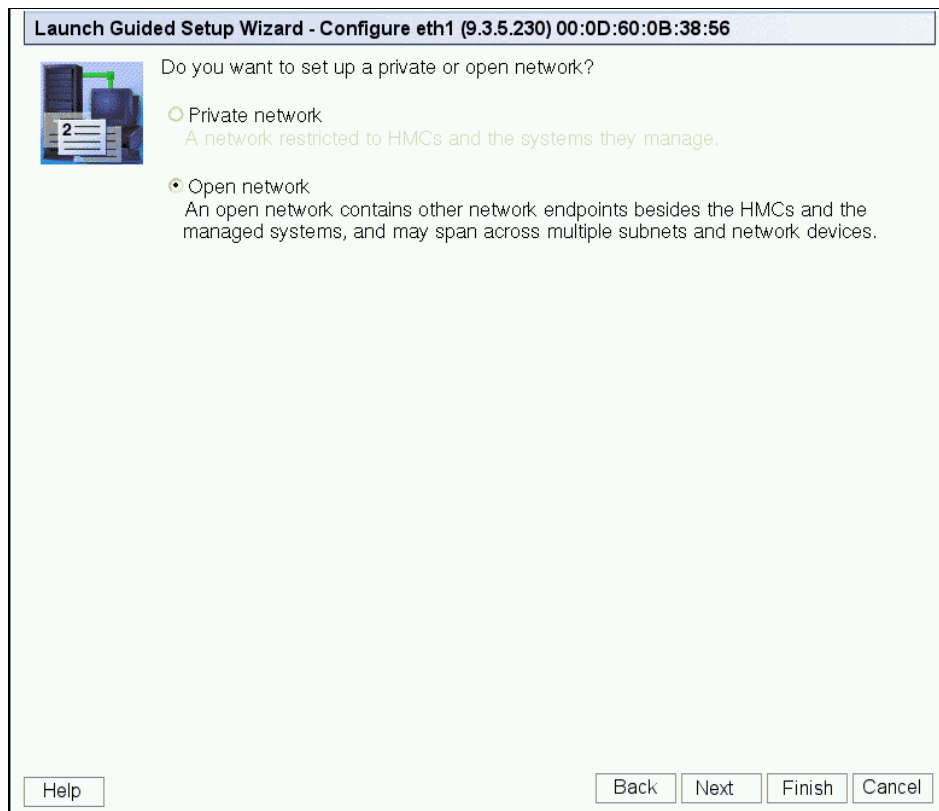

Figure 3-23 Launch Guided Setup Wizard - Configure eth1 Open Network
16. The Launch Guided Setup Wizard - Configure eth1 Open Network display is now shown (Figure 3-23). As mentioned previously, we select Open network for eth1.